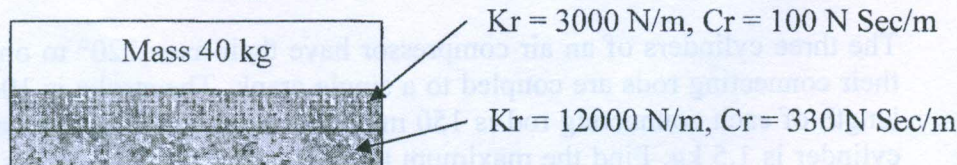

Fig.3
- [B] The machine weighting 40 kg is supported on two slabs of isolators, natural rubber and felt as shown in fig.3. [5]